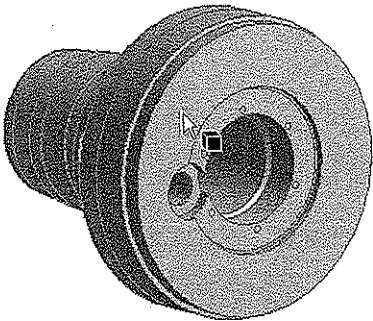

Figure 7-70 Selecting the main body
- 18. Next, select the main body, as shown in Figure 7-70, and then click on the **Apply** button to confirm selection. The **Tool Bodies** selection box now displays **7 Bodies**. Also, the color of the model changes to cyan.